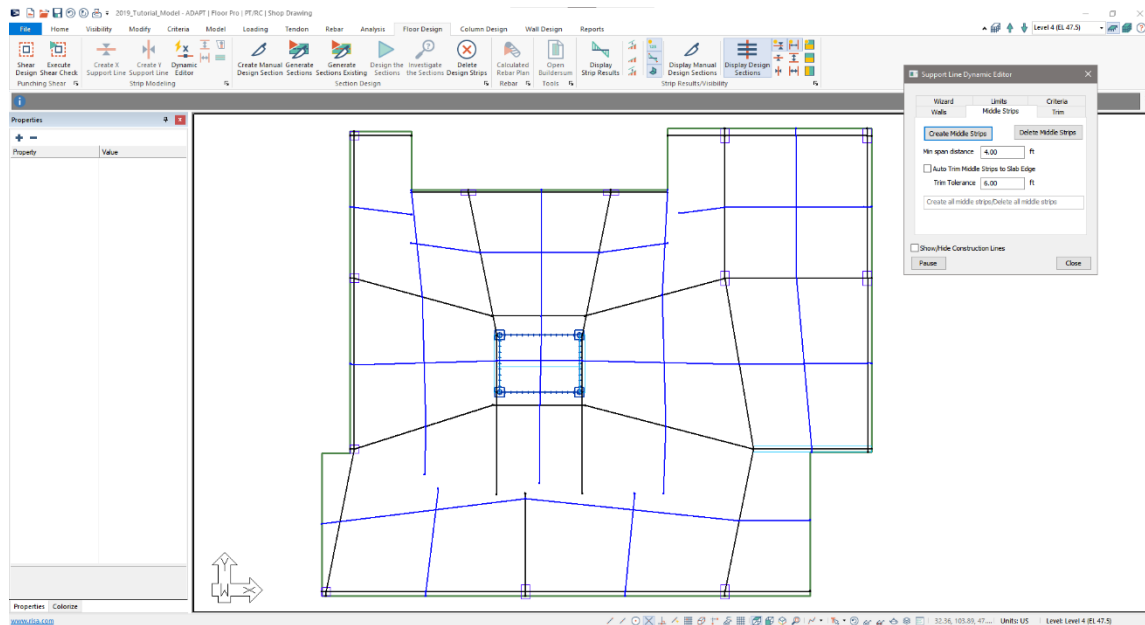

Figure 10-14
- Click Create Middle Strips button. The user should now see a screen similar to **Figure 10-14**, we can see the southernmost middle strip now extends to the slab edge.